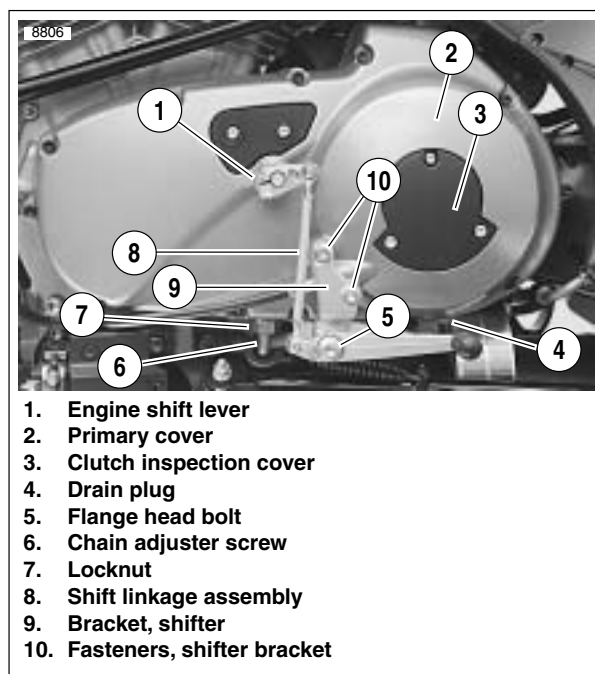

Figure 6-1. Removing Primary Cover
4. See Figure 6-1. Place a drain pan under the engine/primary area. Remove drain plug (4) and drain lubricant from primary drive.
5. Remove engine shift lever assembly (1) and rubber washer. Do not scratch primary cover.
6. Remove flange bolt (5) securing shift pedal assembly to shifter bracket.
7. Remove shifter bracket fasteners (10) and shifter bracket (9) from primary cover.
9. See Figure 6-1. Loosen locknut (7). Turn chain adjuster screw (6) counterclockwise to remove tension on primary chain.
11. See Figure 6-1. Remove clutch inspection cover (3).